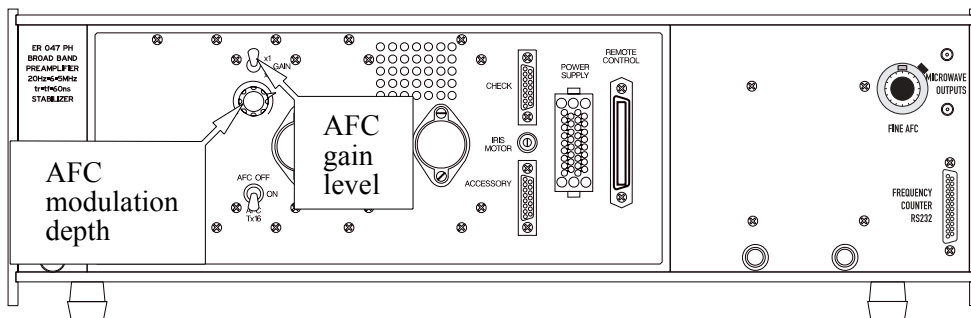
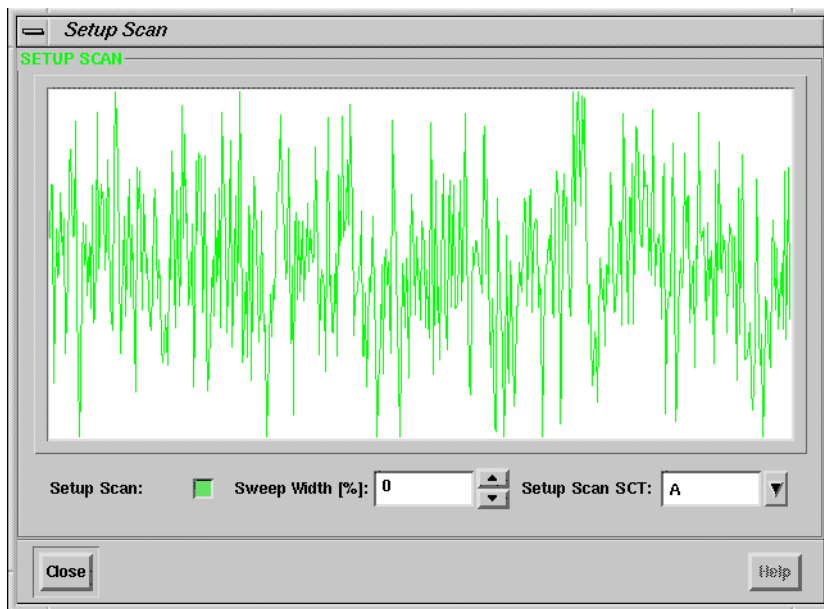

Figure 7-26 AFC adjustments for optimal sensitivity.
Figure 7-28 Too high of AFC gain causes extra noise.
2. **Adjust the initial AFC settings.** There are two parameters to set, the AFC gain and modulation level. (See Figure 7-26.) You can set the AFC gain via a flip switch allowing you to select between X1 or X1/8. To start with, set the AFC gain level to 1/8 for high Q cavities such as ER 4122SHQ cavities and ER 4119HS cavities and set it to 1 for lower Q cavities such as the ER 4102ST cavity. The AFC modulation level is adjusted via a knob scaled from 1 to 10. Turn the AFC modulation level knob to 1.
8. **Increase the AFC modulation level.** Gradually increase the AFC modulation level by turning the knob. (See Figure 7-26.) Watch the noise trace closely in the setup scan window when you increase the AFC gain. (See Figure 7-28.) If the knob is turned to maximum and the noise level is not increasing, turn it back to minimum and flip the AFC gain switch to 1. Then increase the modulation level again by turning the knob. If you observe an increase in the noise level as you increase the AFC modulation depth, turn the knob back until the noise level no longer decreases. This is the optimal AFC modulation level you can set for that cavity with that sample. You